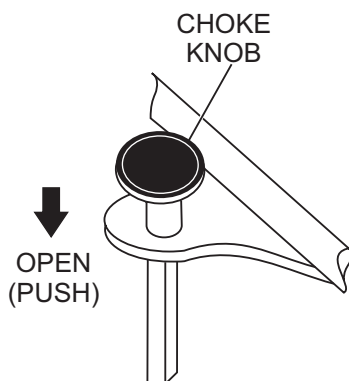

Figure 17. Choke Knob (Open Position)
- Once the engine has been started and warmed, return the choke knob (Figure 17) to the **OPEN** position.